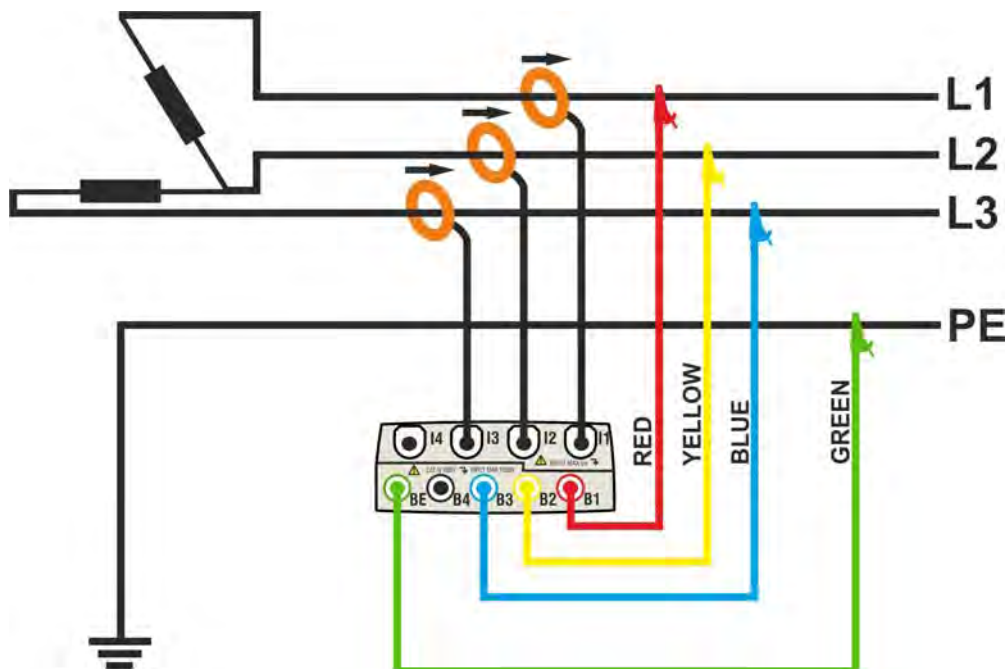

Fig. 141: Meter connection in a three phase 3-wire 3POD system – ENG\_UK type
2. Connect voltage test leads on Phases L1, L2, L3 and PE cables considering the colours as shown in Fig. 141. **Verify the result “123” at display relative to a correct phase sequence indication** (see § 5.2.1) and perform the corrections if necessary.
3. Connect the transducer current clamps on Phase L1, L2, L3 cables as shown in Fig. 141 respecting the clamp's arrow direction indicating the current standard sequence from generator to load. **On Real Time Values' section screens (selecting a 3 wire system preliminarily) always verify the positive value of Active Power and the power factor relative to load which should be normally inductive** before starting a recording. Reverse the clamp by 180 degrees on cables in case of negative readings.